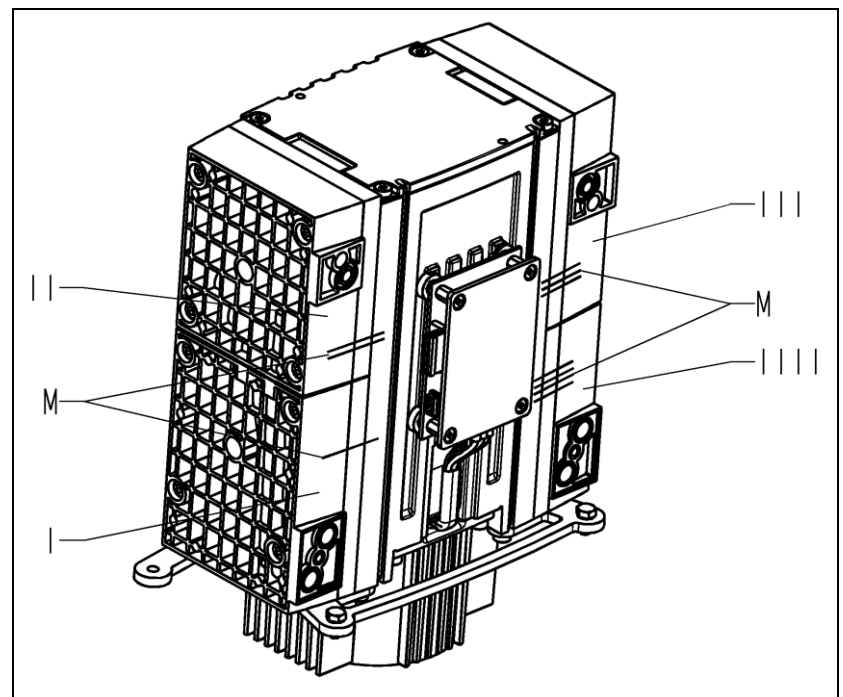

Fig. 23: Marking the pump
1. Remove the head connections' (10) and (13) attachment screws (Fig. 23/9) and (12) and remove the head connections.
2. Remove O-rings (14) and flat seals (11).
- To do this, manually tighten the head connections' attachment screws to hand-tightness. (Fig. 23/9 and 12).